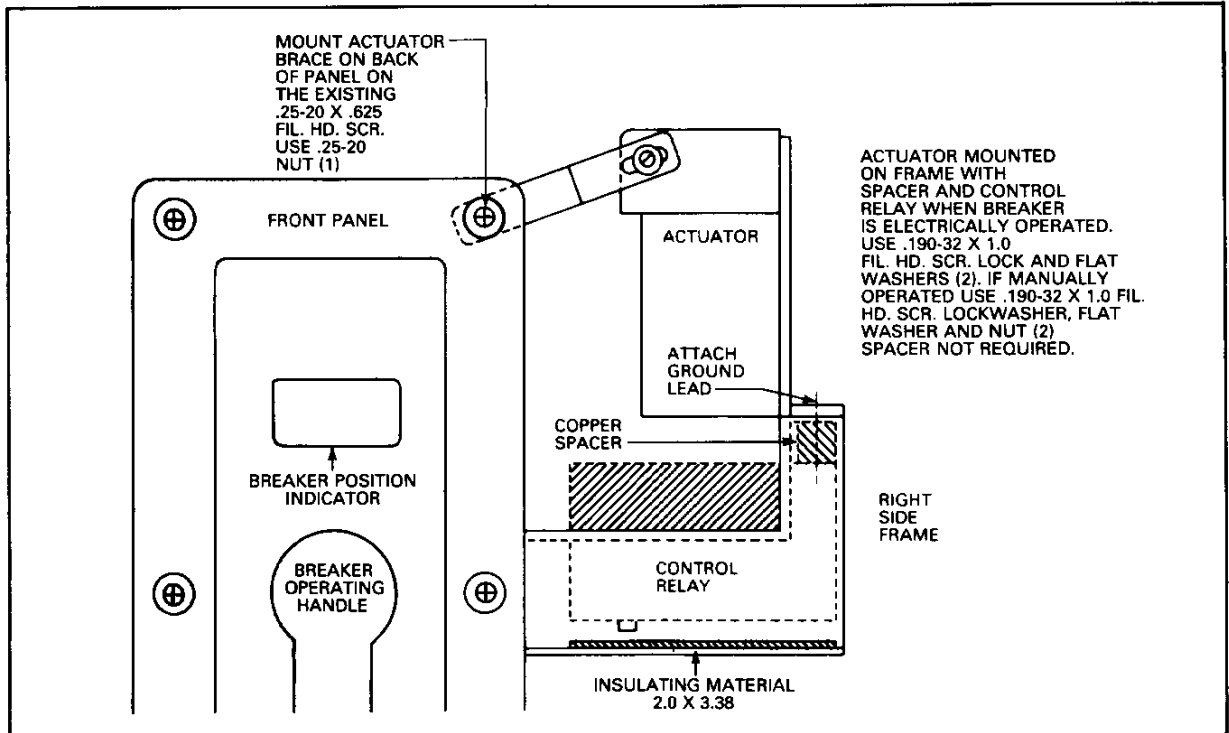

Fig. 6
- Secure the cross brace between the actuator and existing .25-20 x 5/8" phillips head screw located on the top right of the front panel using a .25-20 nut. See Fig. 6.